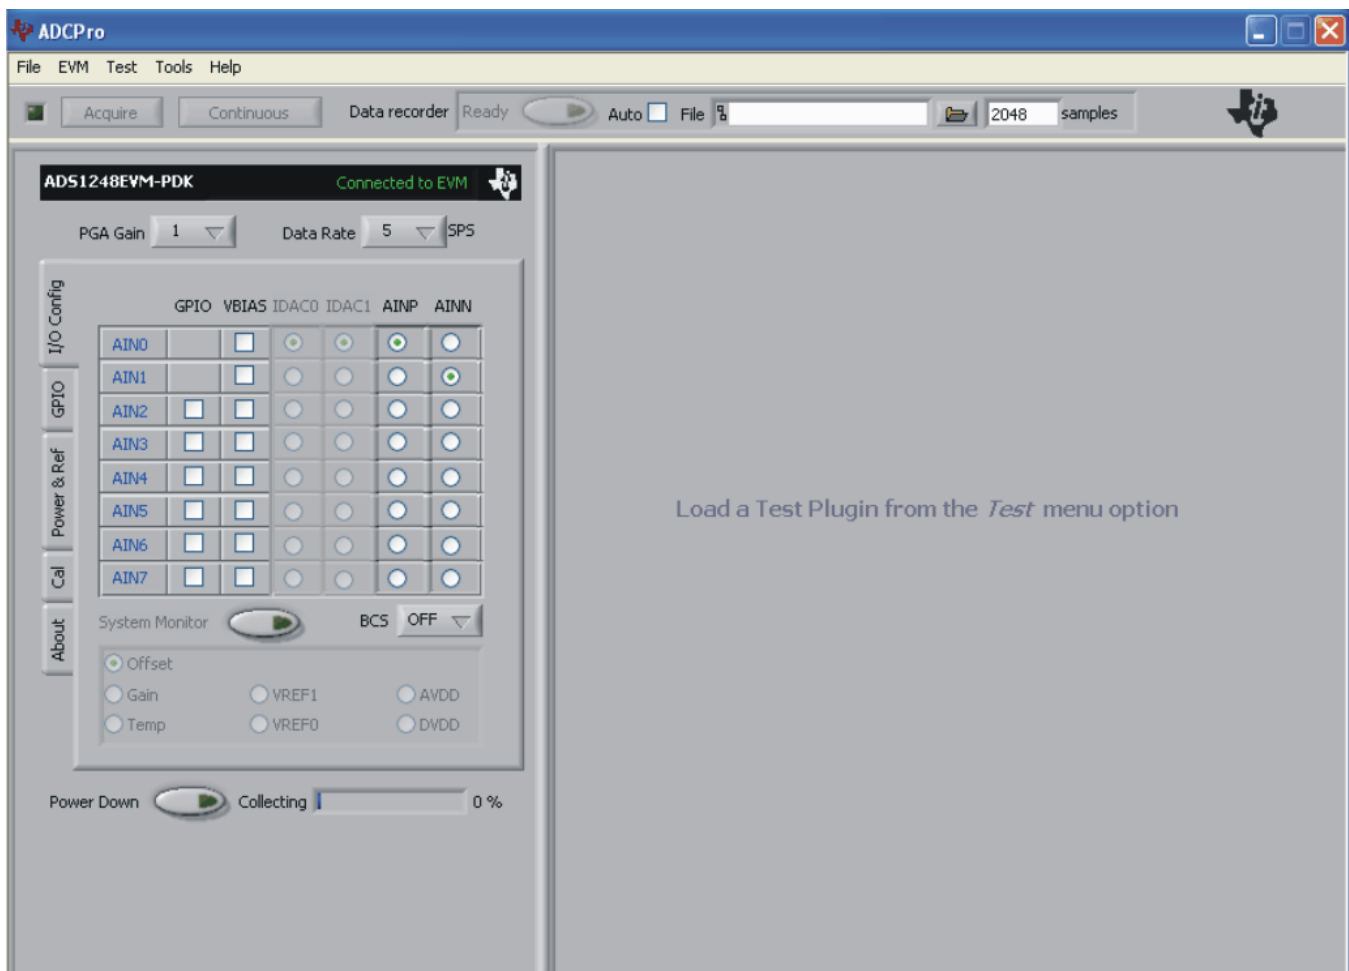

Figure 10. ADS1248EVM-PDK Plug-In Display Window
- Step 2. Select *ADS1248EVM* from the EVM drop-down menu. The ADS1248EVM-PDK plug-in appears in the left pane, as shown in Figure 10.